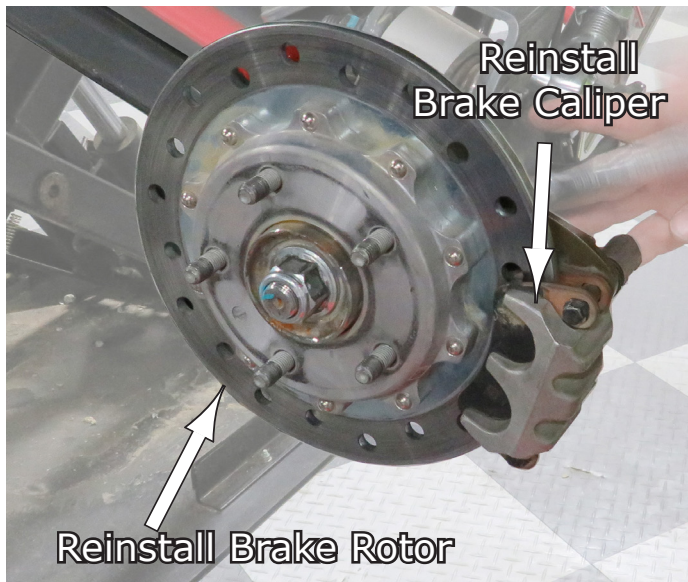

Fig.15
16. After the Radius Arms are installed, you can now reinstall the Brake Hub and Axle Nut. Then reinstall the Brake Caliper. Tighten down all bolts to factory spec. See **Fig15**.